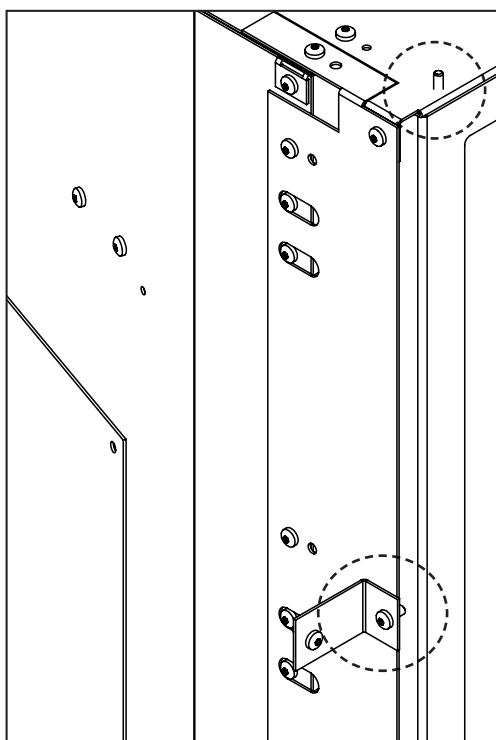

Figure 39: Panel Bracket Installed and Pin Location
2. Install the Trimmable Panel, **WITH THE FLANGES FACING OUT**, onto the Side Extensions and in front of the Panel Brackets by hooking the Panel's top flange onto the alignment pins on top of the Top Extension (See Figure 39).